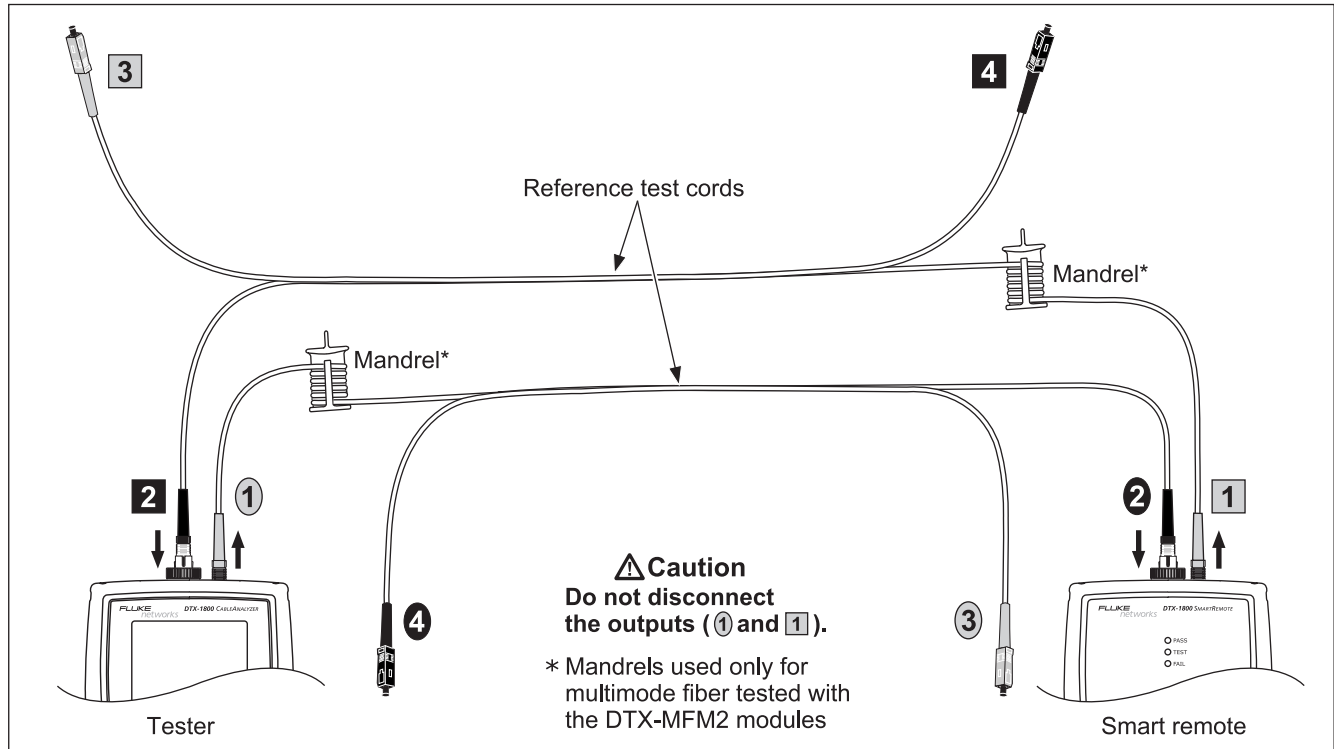

Figure 8. Smart Remote Mode Reference Connections (Method B)
Figure 5 shows how to wrap the fiber around a mandrel. Place mandrels on the tester's output fibers, as shown in Figures 8 through 15.
- 4 The **Set Reference** screen shows reference connections for the test method you selected. Figure 8 shows connections for Method B. Clean the connectors on the testers and reference test cords, connect the tester and smart remote; then press .